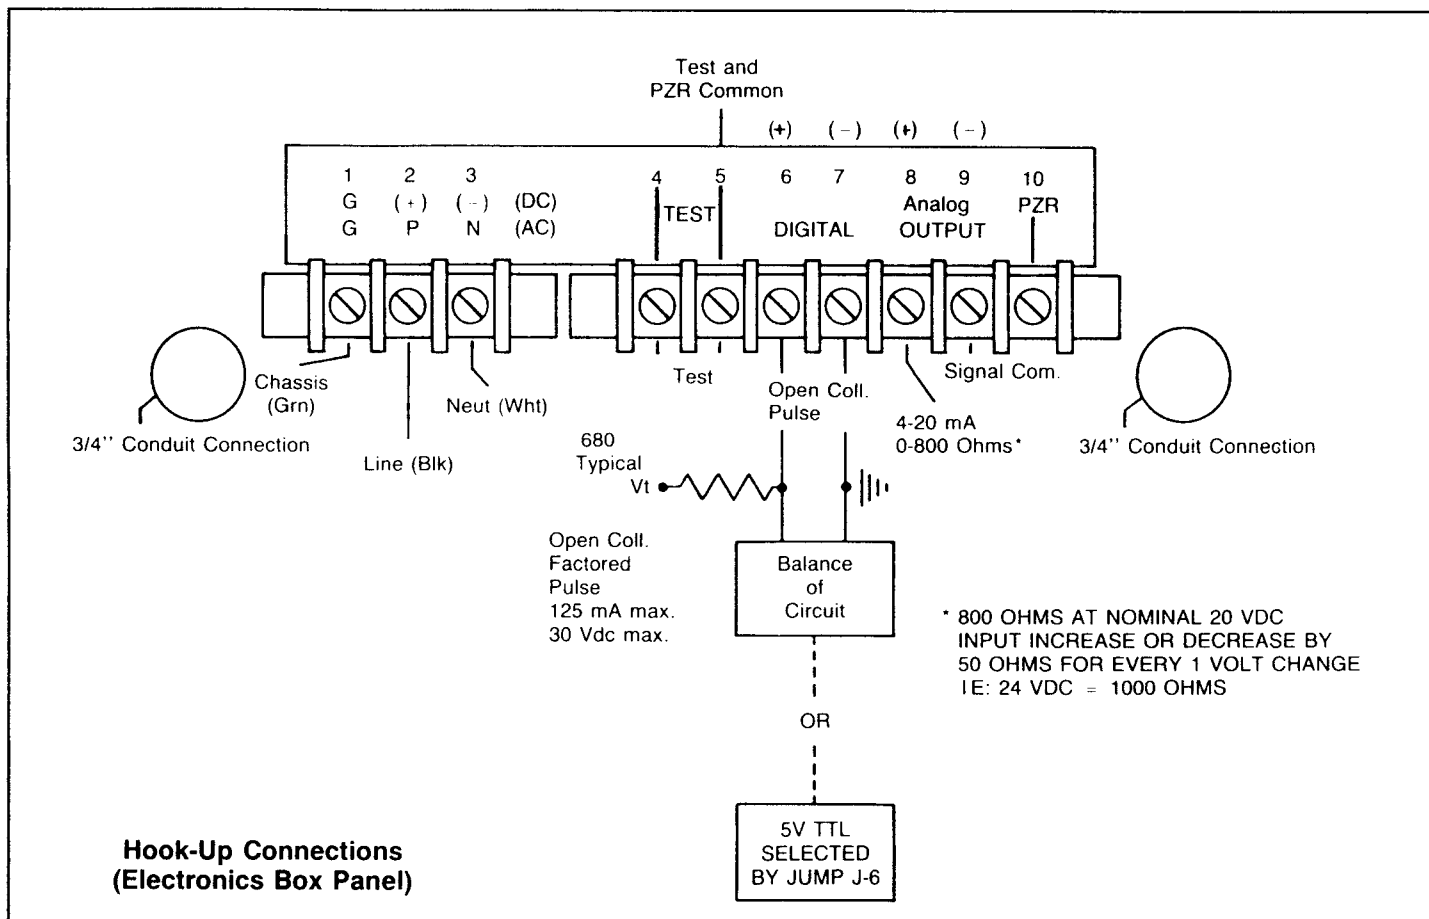
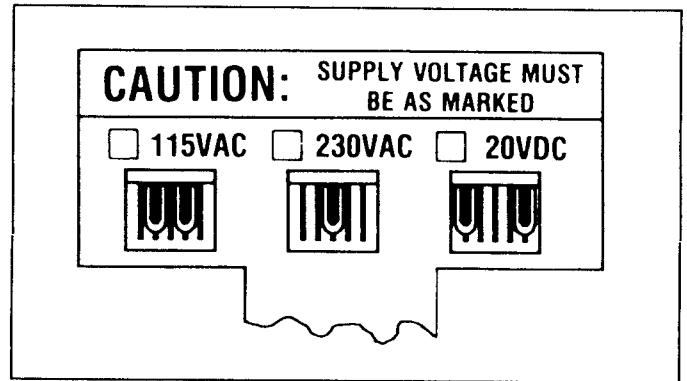

Figure 2-5 Wiring Diagram
Figure 2-7 Voltage Programming Plug Settings
- The integral electronics should be wired using the wiring diagram adjacent to the terminal block, refer to Table 2-4 and Figure 2-5.
- Check the setting of the input voltage by reading the voltage stamped on the nameplate and the voltage plug setting, Figure 2-7.
The FMG-700 magmeter outputs must be adjusted in the field for the desired span per the instructions below. In addition, confirm that the supply voltage indicated on the unit's label matches the power supply you intend to use. If it does not, change the power supply jumpers accordingly (see Fig. 2-7) and change the power supply listed on the magmeter's labels and tags.
2. With no power applied, check the jumper positions for the voltage selected on the power board. (Fig. 2-7). Apply power and check for correct line voltage at terminals 2 and 3 on the customer connection terminal strip. (Fig. 2-5).